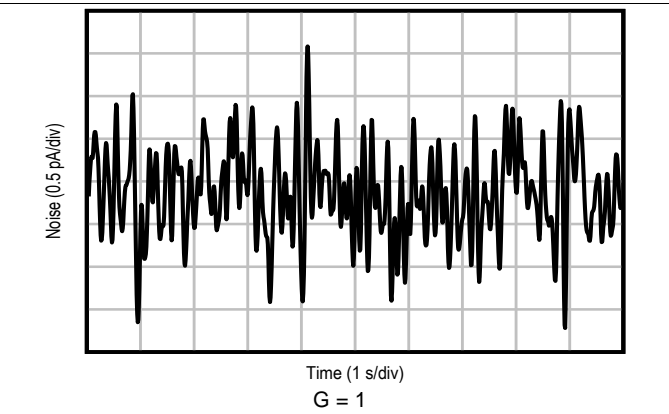

Figure 26. 0.1-Hz to 10-Hz RTI Current Noise G = 1
0.1-Hz to 10-Hz RTI Current Noise	Figure 26